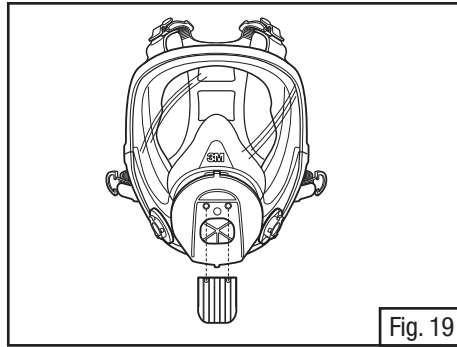

Fig. 19
4. Place new exhalation valve replacement over the exhalation port by inserting stems and pulling through from the opposite side until they are both snapped in place (Fig. 19 and 20).